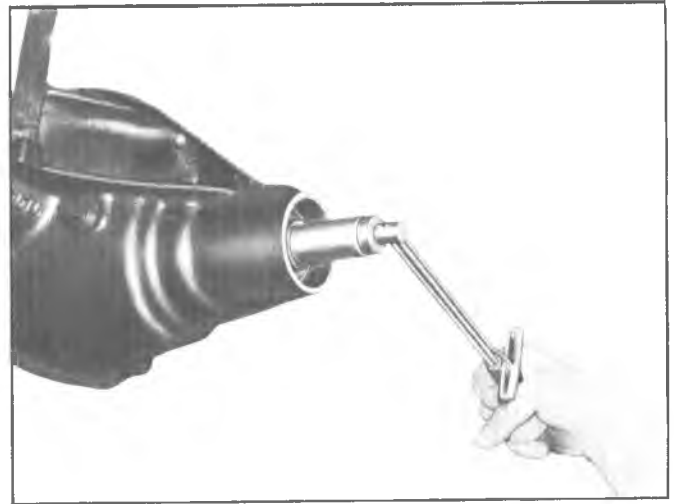

Fig. 19A—Measuring Rotating Torque
4. Hold the preload stud stationary with a wrench on the flats and tighten hex nut until 20 in. lbs. of torque are required to rotate the bearings as shown in figure 19A.